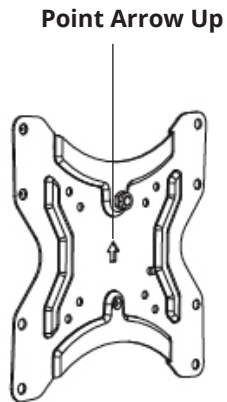

Figure 4A
2. Position the VESA plate over the threaded mounting holes with the arrow pointing up, see **Figure 4A, 4B, 4C**.